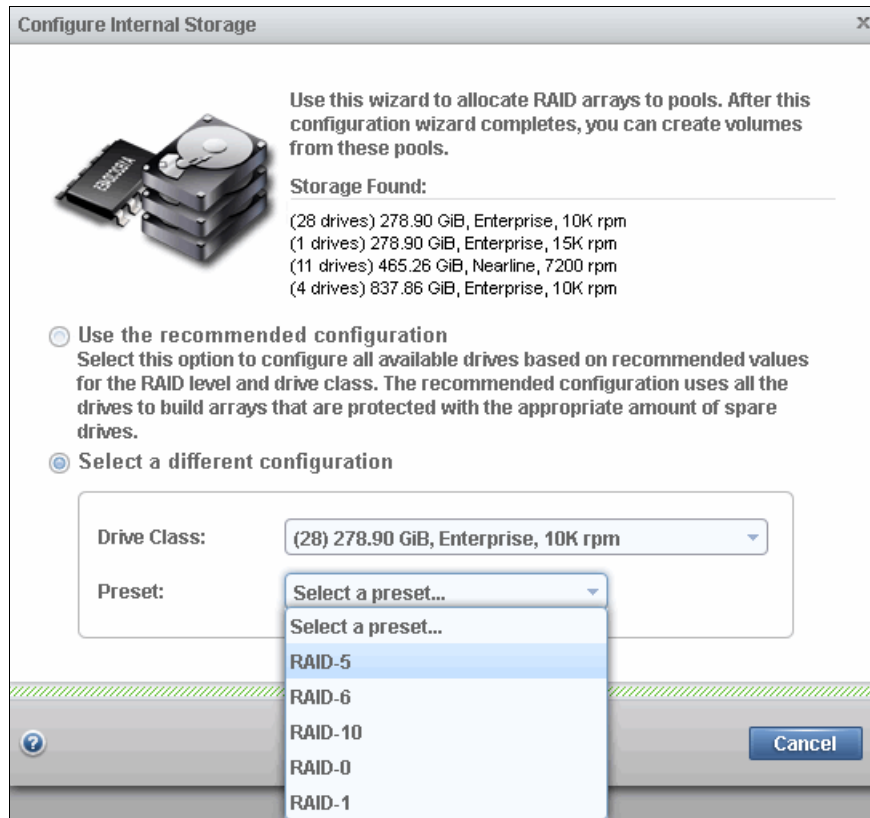

Figure 7-30 Select the RAID preset
2. Click **Next** and select the appropriated RAID preset, as shown in Figure 7-30.